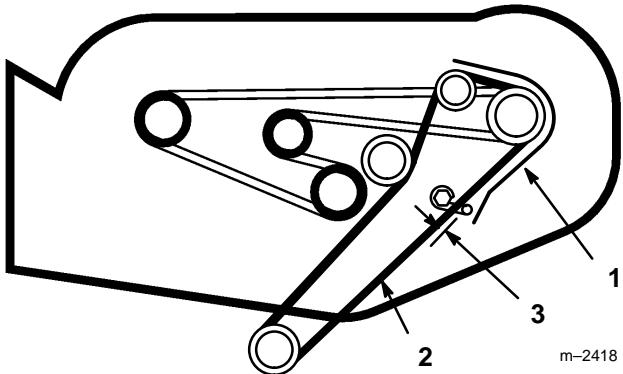

Figure 30
2. Remove left pulley cover mounting screws and pulley cover. Remove PTO belt (Fig. 30).
2. Install left pulley cover with previously removed mounting screws (Fig. 30).
4. Adjust belt guide so distance between belt and guide is 1/8" (4 mm) (Fig. 30).